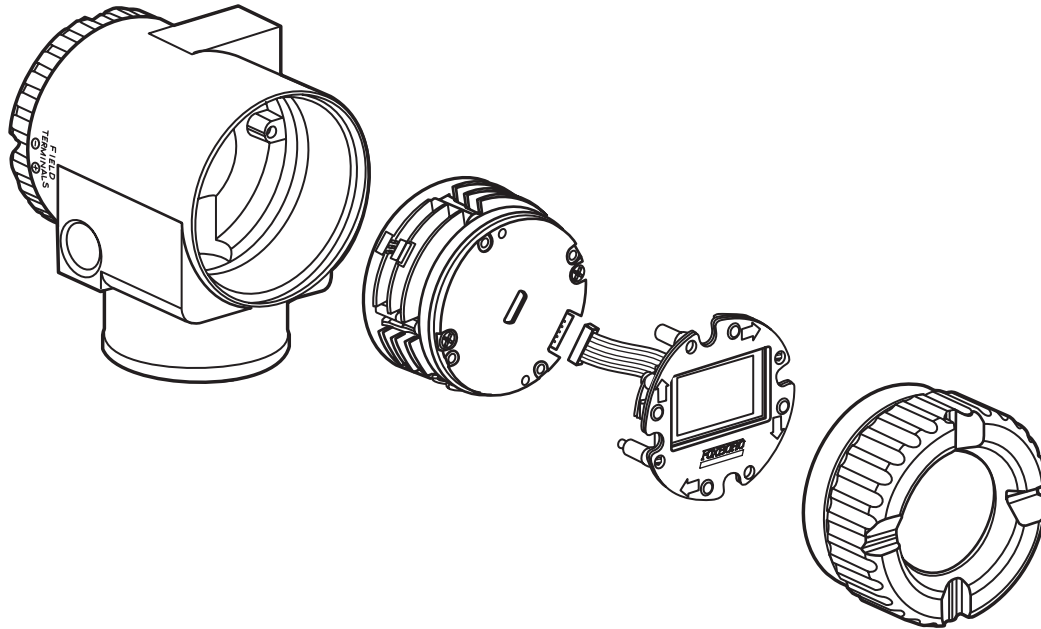

Figure 37. Electronic Module with Display Connections
6. If the electronic module was equipped with a display, reinstall the display. Carefully fold the ribbon cable in the space between display and the electronic module so that it is not pinched. The display molding should rest firmly against the module molding before tightening the screws. See Figure 37.